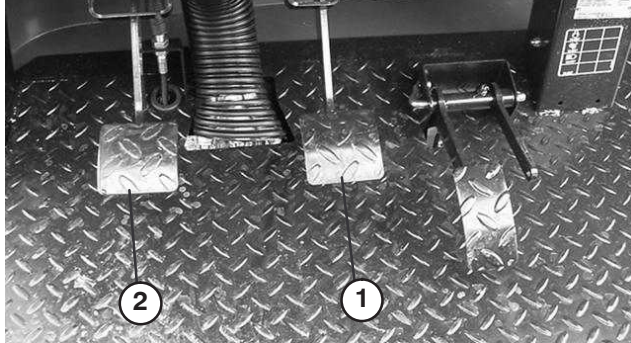

Figure 61
2. Lift up on brake pedal (Fig. 61) until it contacts frame.